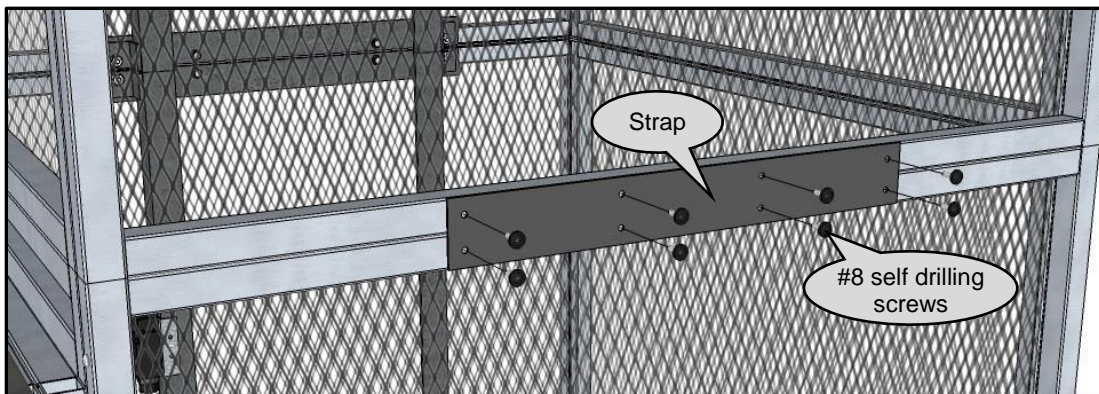

Figure 4
- 1 Once all the sections are stacked up, **make sure that the track is aligned at each seam creating a smooth transition**, then use the provided straps and #8 self drilling washer head screws to secure sections together. Two straps are provided to secure two sections together. Straps should be installed on opposite sides where possible. (see Figure 4)